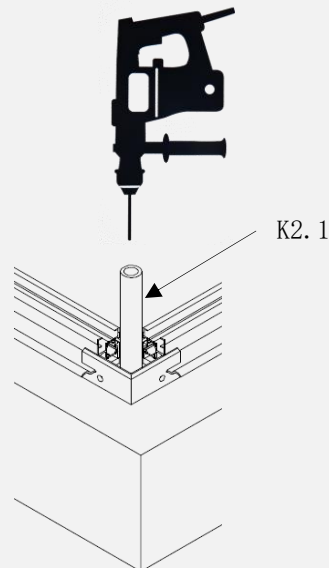

fig. 11a
- drill a hole at least 100 mm deep and Ø20 mm into the concrete using a drilling aid (PVC pipe) (item K2.1). (fig. 11a)